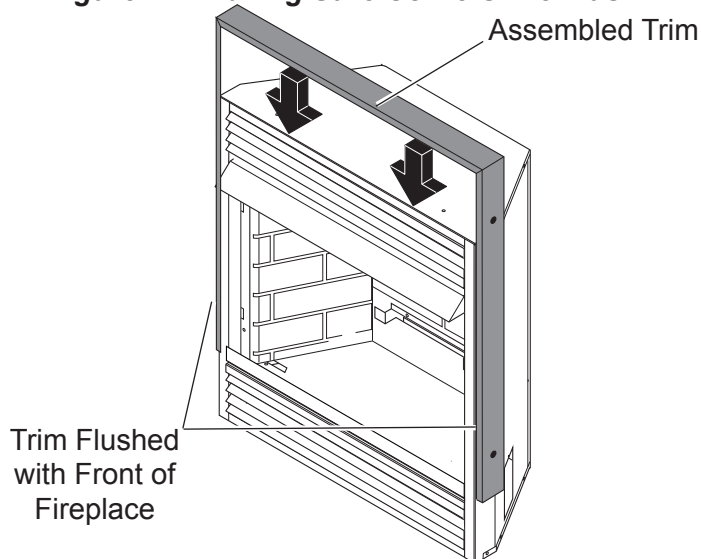

Figure 12 - Sliding Assembled Trim Over the Top of the Heater
6. Slide assembled trim over the top and down the sides of the fireplace. Flush trim with front of fireplace as shown in Figure 12.